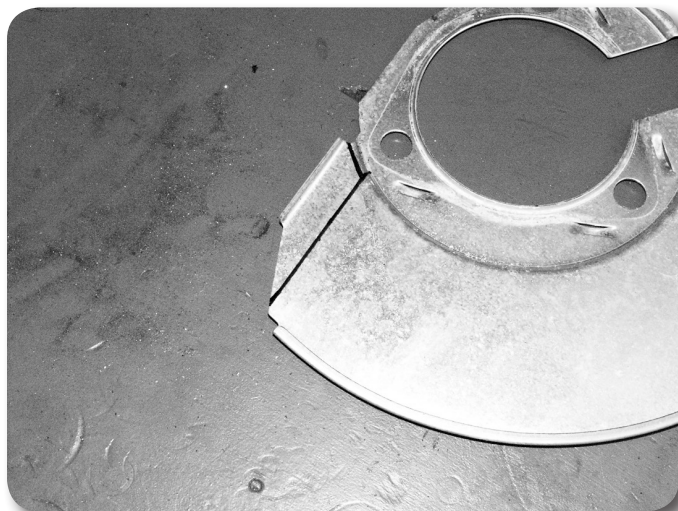

Figure 22
42. The brake dust shield needs to be trimmed. Measure in from the lower vertical edge (opposite the ABS sensor location) $\frac{3}{4}$ " and make a vertical cut line along the entire flat section **Figure 22**. Cut the mark section off of the brake dust shield.